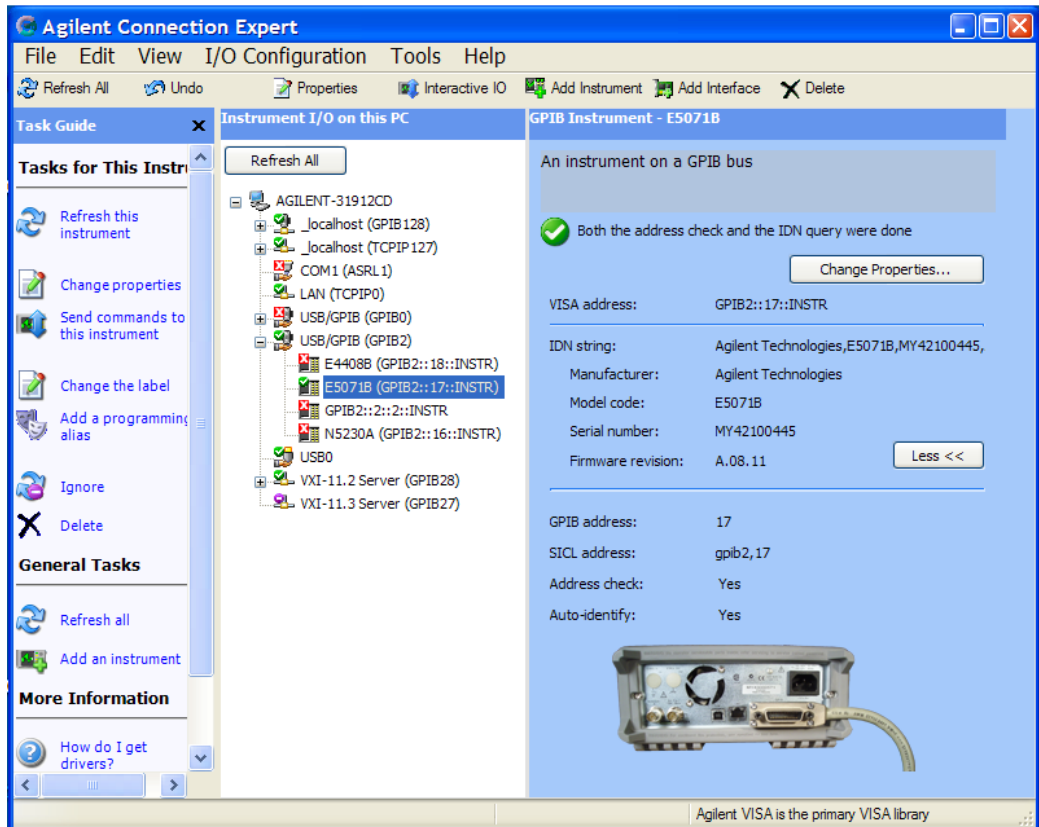

Figure 26 Agilent Connection Expert
- 8 Ensure that the application detects the spectrum analyzer connection to the oscilloscope. Else, click on the Connect... button in the Spectrum Analyzer External Instruments group. A pop-up box will appear where you can enter either the VISA/SICL address or the IP address. Enter the information and click the Verify button, followed by the Done button to close this box. The VISA/SICL address or the IP address can be obtained from the IO Control Connection Expert application, as shown in Figure 26.